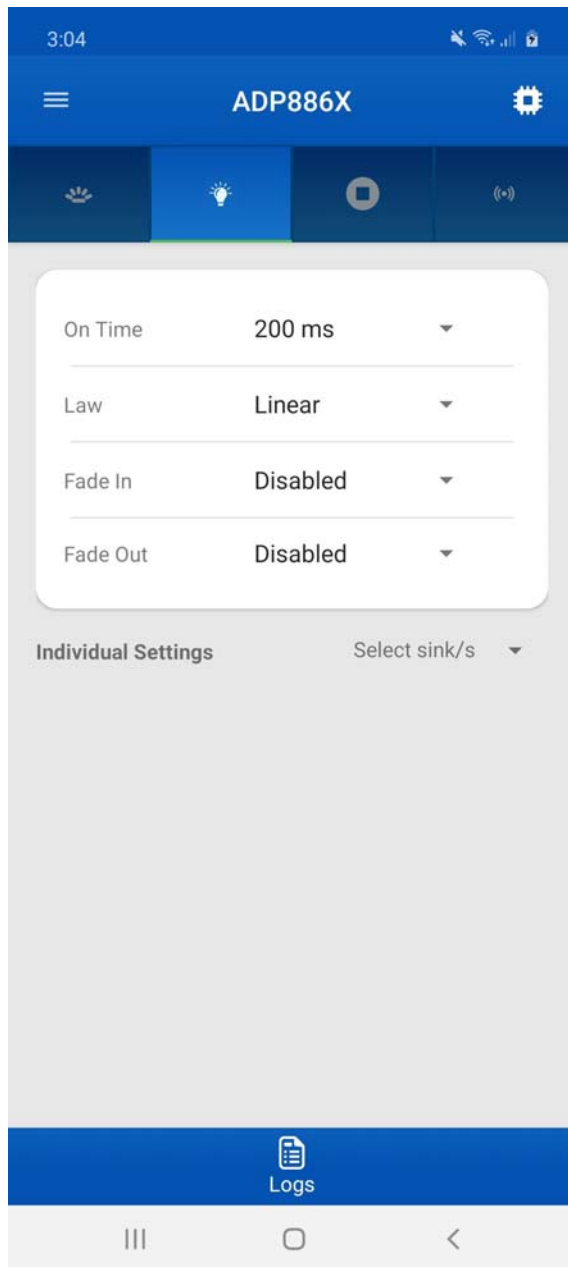

Figure 21. **Sink** Tab for the Android App
7. In the **Sink** main tab, users can select sink independently and can configure sink **Law**, **Current**, **On Time**, **Off Time**, **Fade In**, and **Fade Out** (see Figure 21).